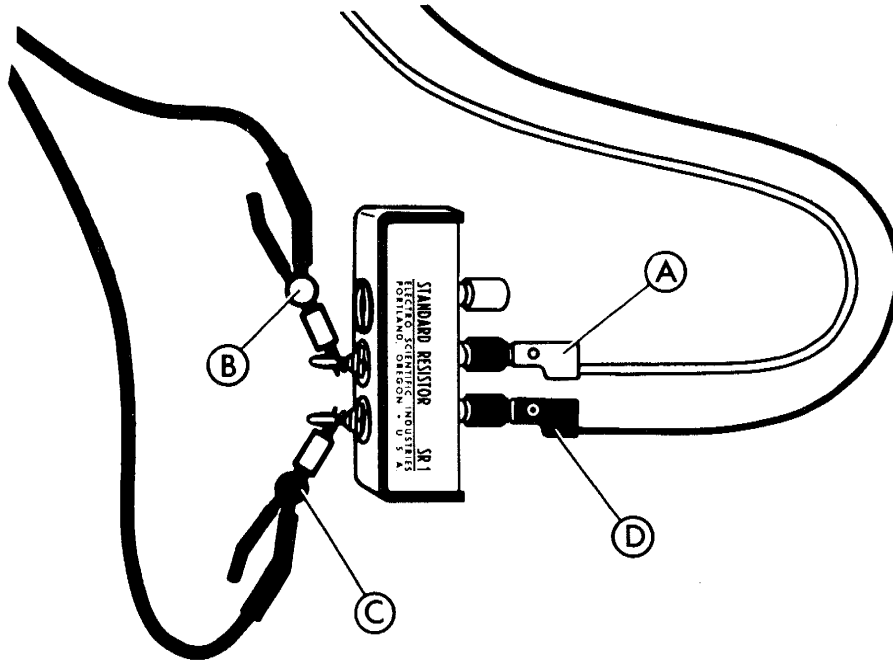

Figure 5-19. Lead Connections to SR1
19. Make the 242D lead connections to measure the 100 ohm SR1 Standard Resistor. Reference Figure 5-19.